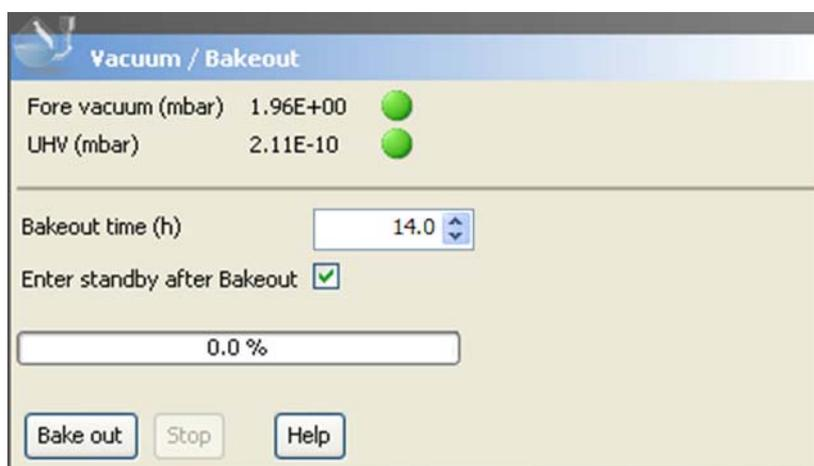

Figure 5-8. Vacuum / Bakeout window
3. Enter the desired baking duration (in hours) into the spin box. The range is 4 to 100 hours. See Figure 5-8.